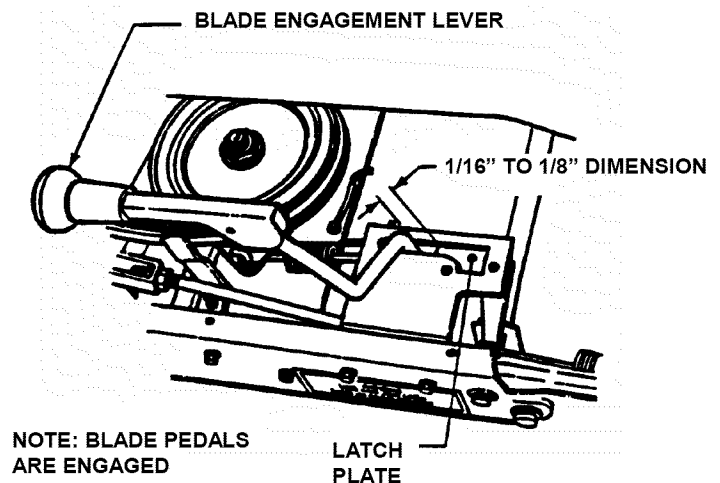

FIGURE 4.2
The automatic Blade Brake should stop the blades within 3 seconds anytime the blades are disengaged by moving blade lever to the "OFF" position or by releasing the Blade Pedals. When the Blade Brake is properly adjusted there should be 1/16" to 1/8" clearance between the Blade Engagement Lever and the back of the Latch Plate. Check this by disengaging the Blade Lever and depressing the Blade Pedals as shown in Figure 4.2. If clearance is greater than 1/8" perform the following adjustment.
2. With the blade engagement lever disengaged, hold the blade pedals down and measure the distance between the front of the blade lever and the rear of the latch plate. The dimension should be 1/16" to 1/8" clearance between lever and plate. See Figure 4.2. If the dimension is incorrect go to step 3.